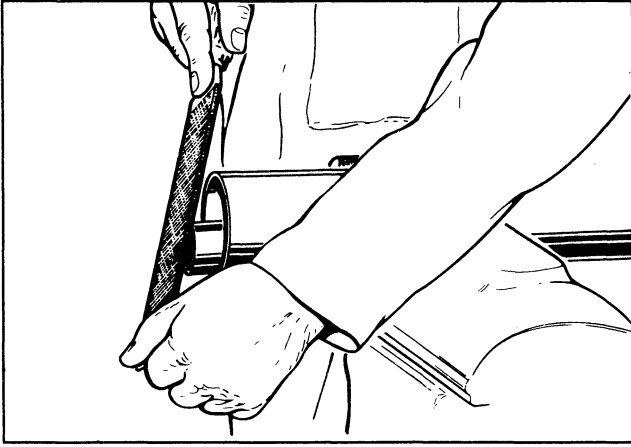

Figure 19
11. Deburr the ends of the driveline sections and clean away all chips and filings as shown in Figure 19.